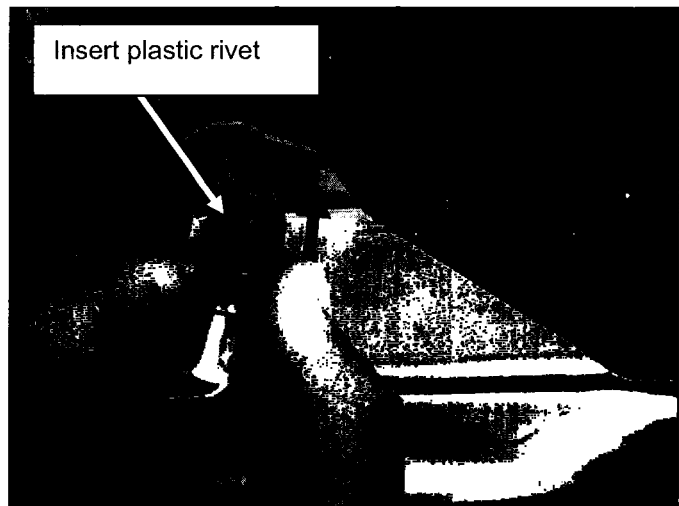

Figure 8
- b. Insert the black plastic rivets (one in each shield) through the shields and into the body (see Figure 8).